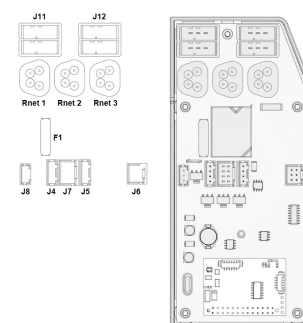

Figure 467. ICS master module.
4. Disconnect the electrical connections of the ICS master module, being attentive to their placement. See fig. 467.
6. If the wheelchair is equipped with lights, remove the lid from the ICS master module and disconnect the lights cabling from the contacts on the circuit board. See fig. 467.